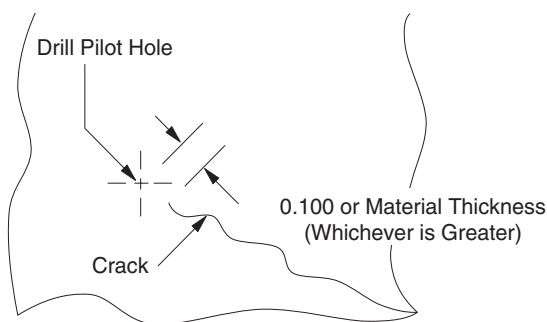

Figure 9-01 — Crack Length > 0.200"
- 9.2.3.1 For crack lengths greater than 0.200 inch, the center of the pilot hole shall be located either 0.100 inch, or one material thickness, ahead of the observed crack tip, whichever is greater. Ensure hole is within 2° of normal to the surface. See Fig. 9-01.